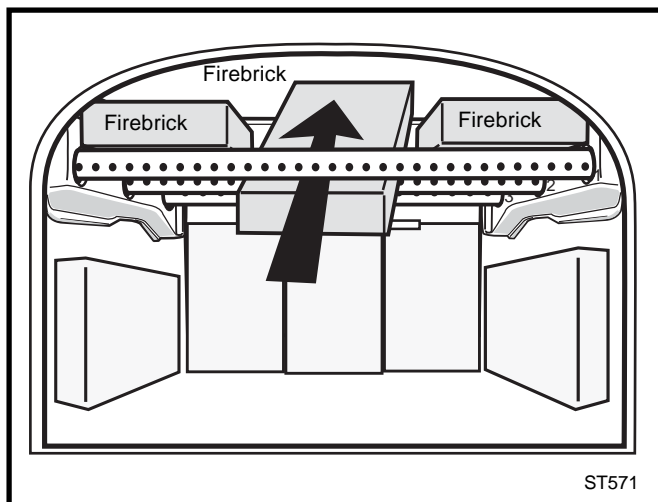

Fig. 30 Install the Upper Firebricks.
4. Insert the three Upper Firebricks into position above the Secondary Air Tubes as shown in Figure 30. Insert the bricks up between the #1 and #2 Air Tubes. The firebricks do not need cement - they simply rest directly upon the air tubes. Push each firebrick fully back against the Smokesheff plate.
3. Use a fireplace tool to break up the charcoal and direct ash through the grate. Pull the charcoal from the back to the front. (Fig. 30) This will encourage efficient combustion as the fuel burns from front to rear.